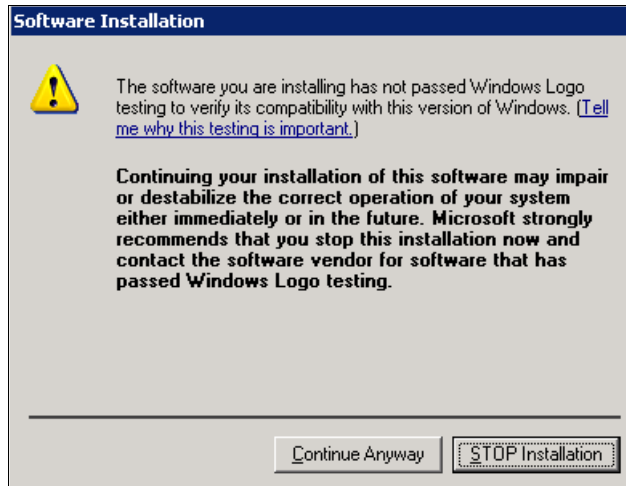

Figure 5-12 Software Installation window
6. The next window (Figure 5-12 on page 71) will contain a warning about Windows Logo Testing. Click **Continue Anyway** to ignore this.